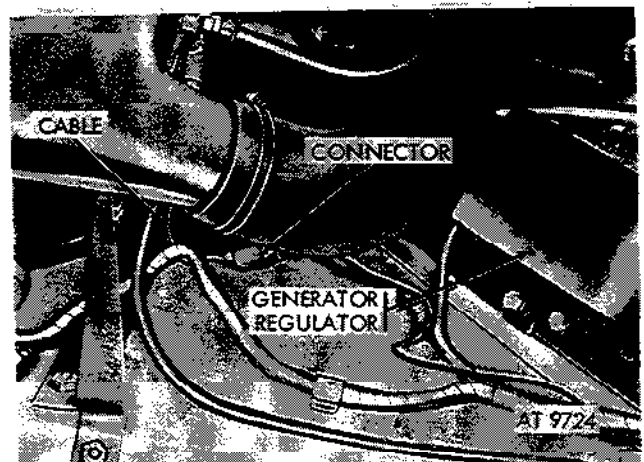

Figure 2-286. Separate horn switch connector at horn cable.
(1) Separate the connector at horn cable located below generator regulator (fig. 2-286).